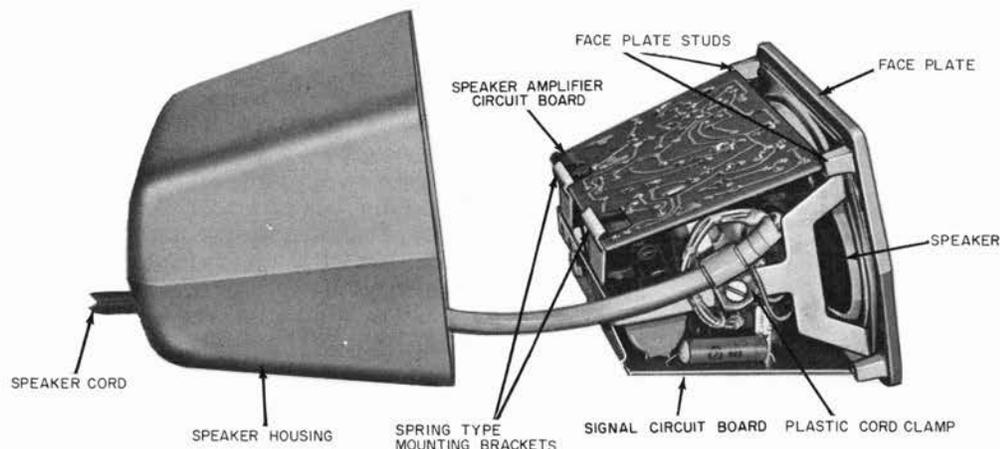

Figure 10. Speaker Assembly.
5.12 To remove the speaker housing, remove the Phillips-head screw from the rear of the speaker assembly. Removal of this screw frees the housing from the speaker components. The speaker cord passes through a hole in the rear of the speaker housing, making it necessary to slide the housing back along the speaker cord to expose the speaker components. Figure 10 shows the components free of the housing.